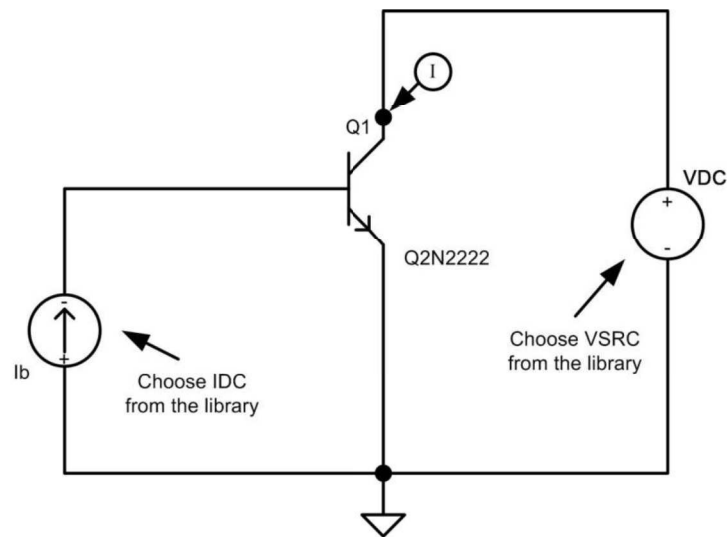

Figure 3. Schematic of Part I.
- **Task-1:** Input the circuit schematic of Figure 3 in PSpice schematics.